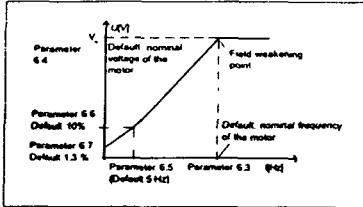

Figure 2.4.2 Programmable V/f curve
**2 Programmable V/f curve** can be used if the standard settings do not satisfy the needs of the application. See figure 2.4.2